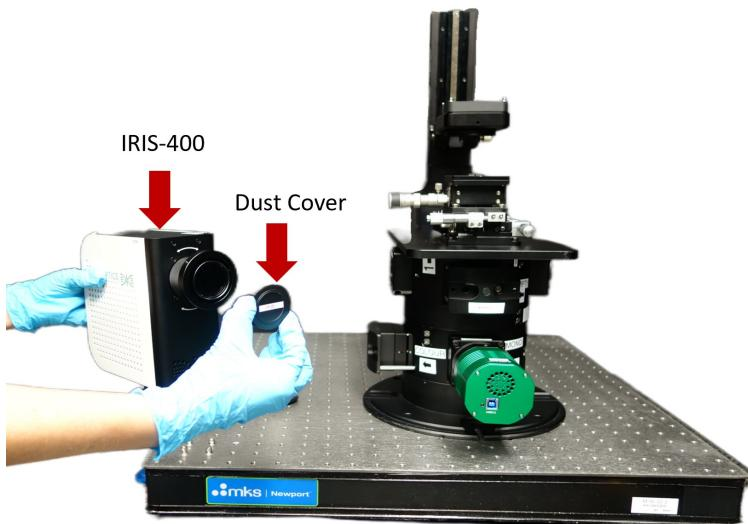

Figure 12: Removing the dust cover.
3. Remove dust cover (OF05) from the IRIS-400 (OF04) as shown in Figure 12.